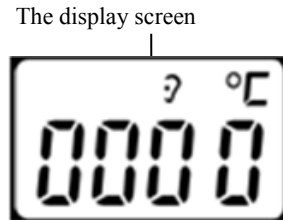

Figure 3.4B
2. When the screen shows as figure 3.4B, a short beep and the blinking temperature unit "°C" means the user can begin to take the measurement.